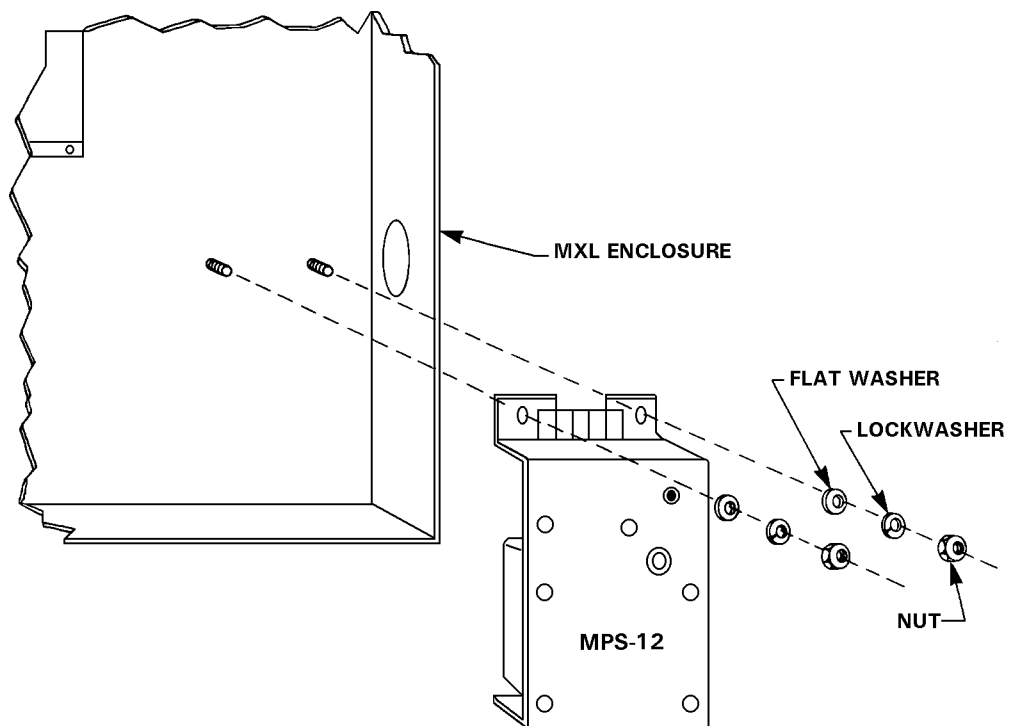

Figure 1
2. Place the mounting bracket for the MPS-12 over the two studs provided in the enclosure. (Refer to Figure 1.)